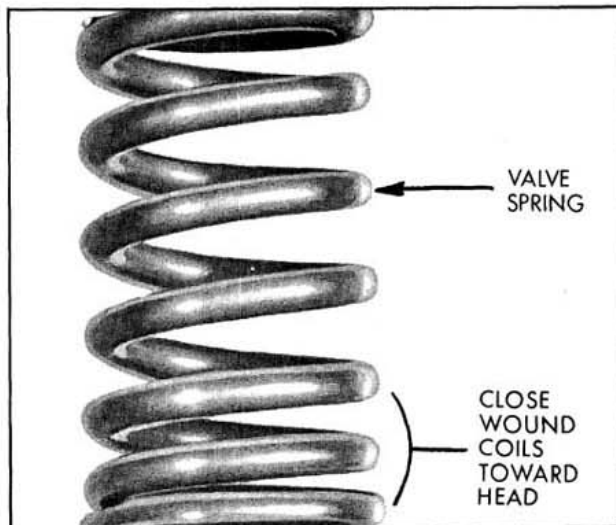

Fig. 3-9 Valve Spring
12. Lube stems and tips with engine oil and re-install valves, valve springs, caps and cap retainers, using same equipment used for removal. Install valve spring with closely wound coils toward the cylinder head. (Fig. 3-9)